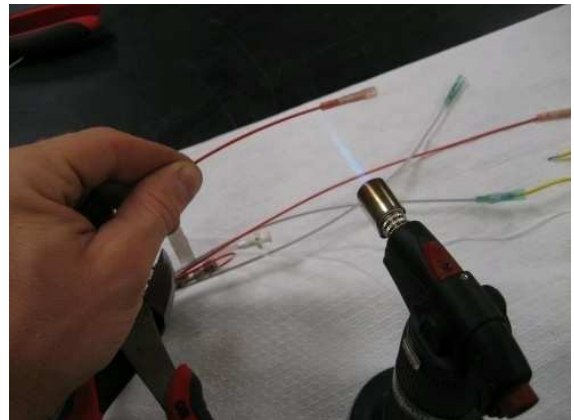

Fig. 4: Heating the shrink tube on the crimp connections
3. Heat up the shrink tubing ends of the electrical connection after you have crimped down the connection (Fig. 4).